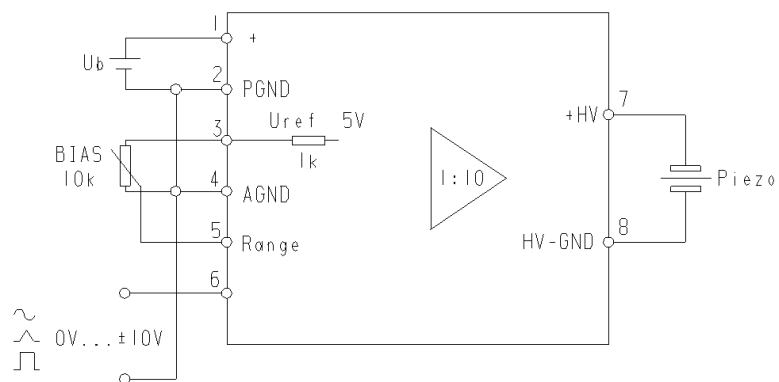

Fig. 4: E-660.OE: Amplifier mode with offset adjustment
- 3 Combined-mode: amplifier operation with additional manual offset adjustment. An external potentiometer can be used to offset the output. See Fig. 4. The offset input is effectively doubled before being used to bias the control input.